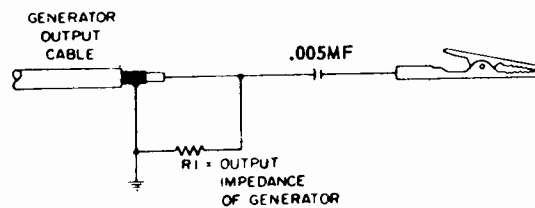

Figure 8 - Generator Cable Termination.
**Generators** - Except where otherwise noted, all signal generating equipment should be terminated as shown in Figure 8. Connect the signal cable ground near the ground of the stage where the signal is injected.